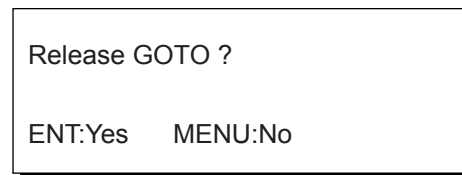

Figure 5-16
- 2) Press **5** to select Cancel. The message shown in Figure 5-16 appears.